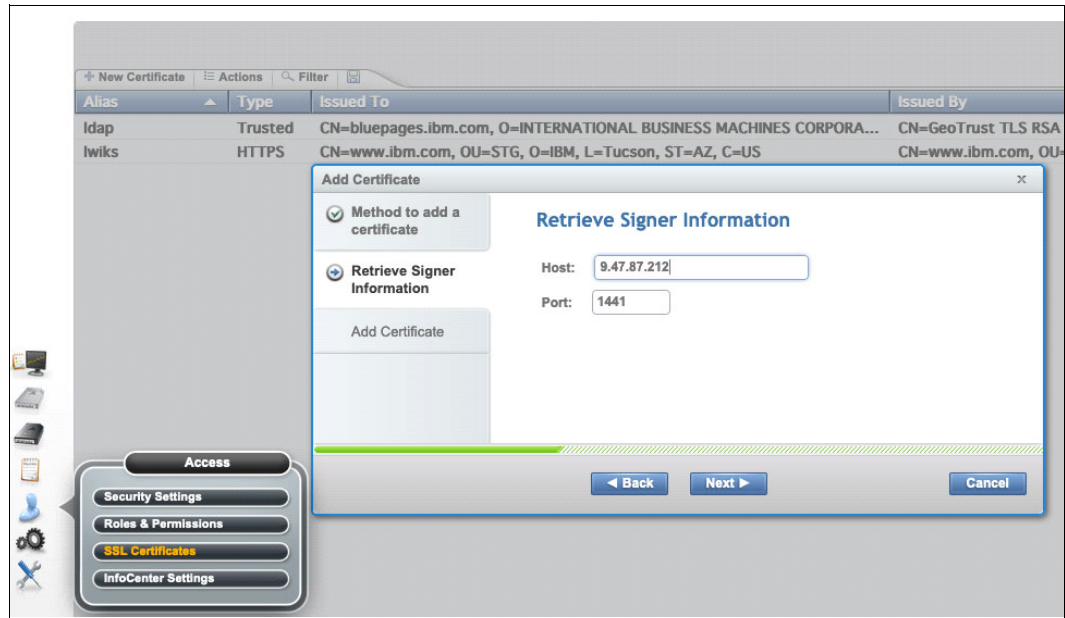

Figure J-9 Retrieving signer information
3. In the **Retrieve Signer Information** tab, enter the IP or DNS style name of the target IBM Security Guardium Key Lifecycle Manager server in the **Host** field, as shown in Figure J-9 on page 1039. Consult with your IBM Security Guardium Key Lifecycle Manager administrator to verify the port in which the target server accepts TLS/SSL traffic (the protocol that is used for this connection). Because different IBM Security Guardium Key Lifecycle Manager setups can be configured differently, the default value (port 443) might not be correct for many cases.